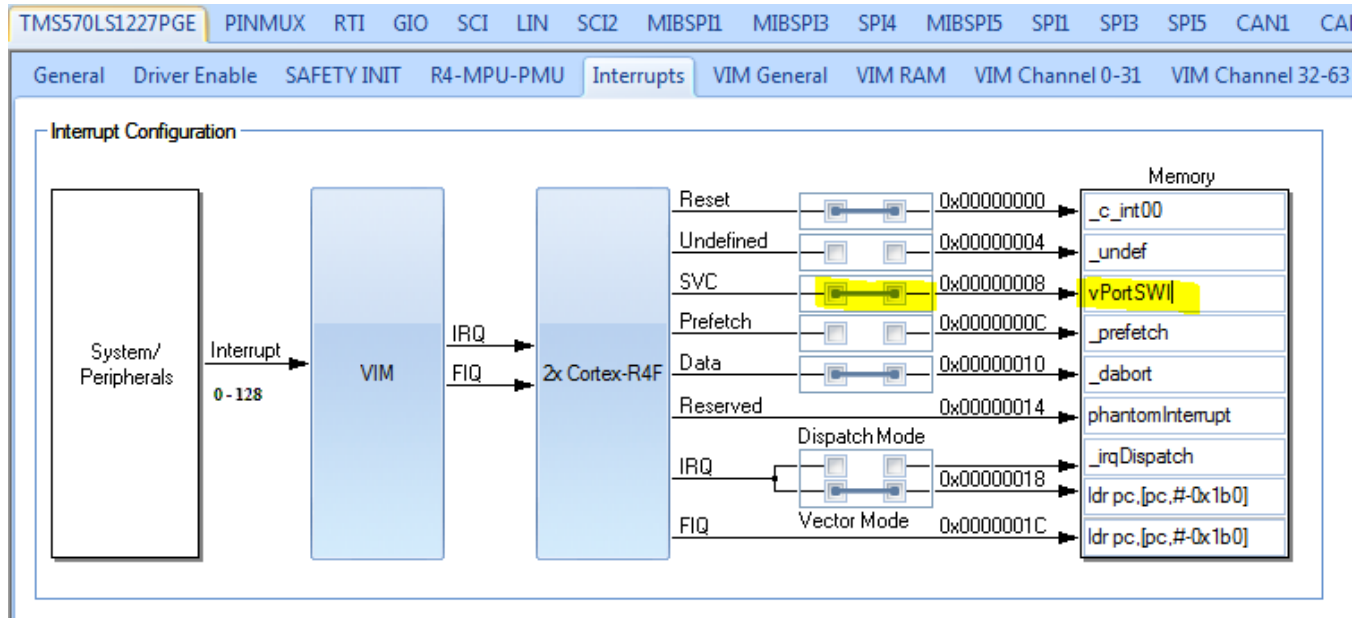

Figure 8. Enable PortSWI
6. FreeRTOS also uses the SVC exception. Enable the exception handler as vPortSWI, as shown in Figure 8.